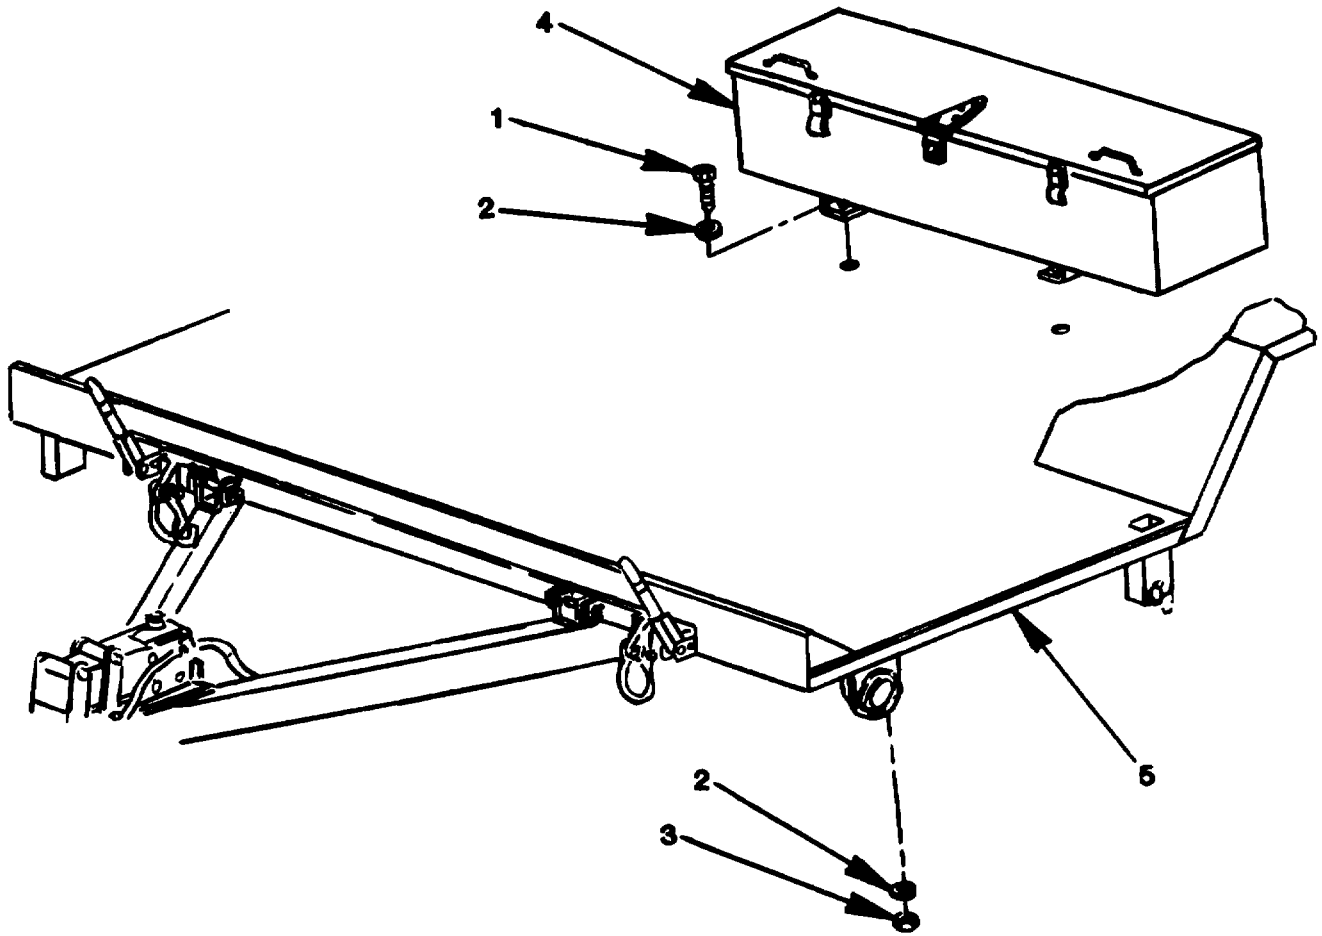

Figure 4-12. Accessory Box Replacement on AN/MJQ-33.
- (1) Remove, two each, fuel can brackets (paragraph 4-27) situated in front of accessory box.
- (2) Remove four screws (1, figure 4-12), eight flat washers (2), and four nuts (3) securing accessory box (4) to trailer bed (5).
- (3) Remove accessory box from trailer bed.